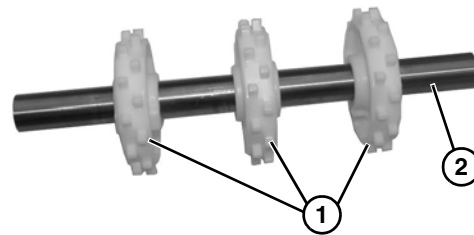

Figure 68
2. Remove three sprockets (**Figure 68, item 1**) off of shaft (**Figure 68, item 2**).